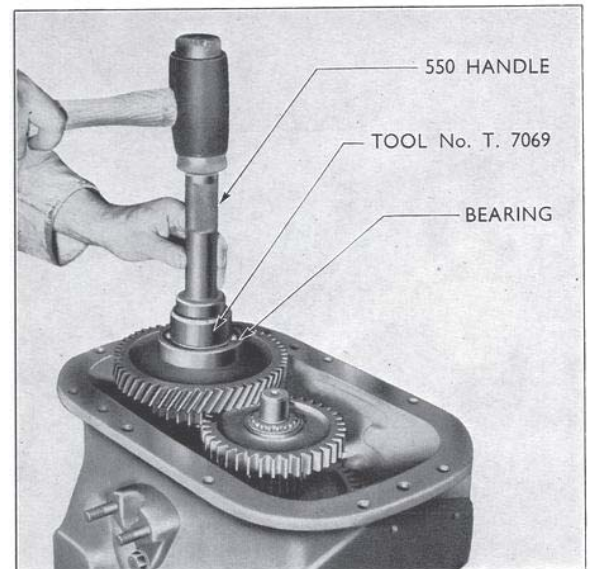

Fig. 25
11. Fit the main transmission countershaft cluster gear with the smaller gear facing inwards and install the front bearing using Tool No. T.7069 with 550 handle (see Fig. 25).